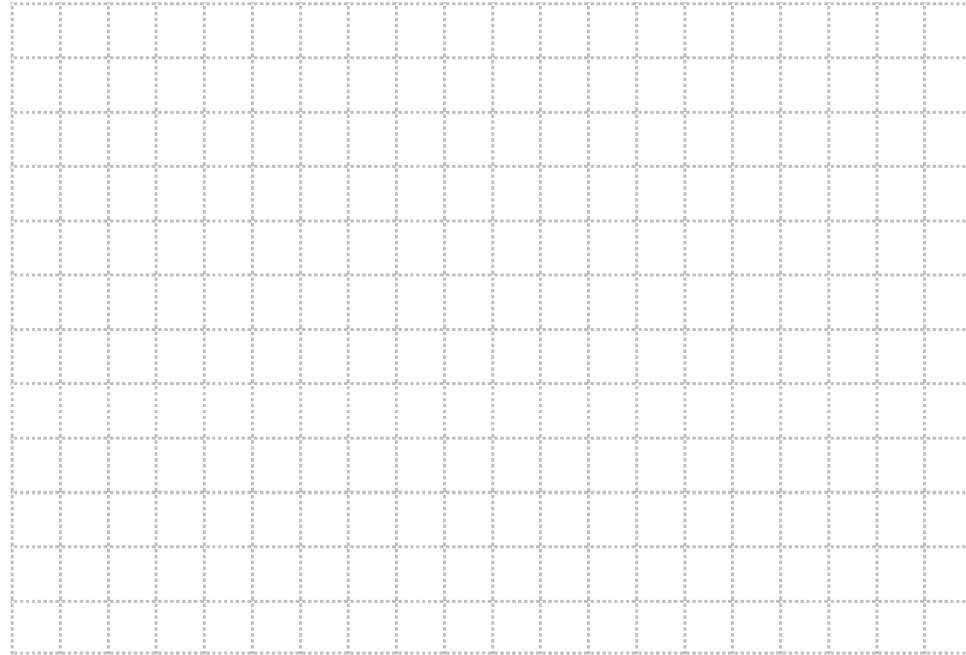

Figure 1-7. Head versus flow rate.
18. Plot the head versus flow rate curves in Figure 1-7.